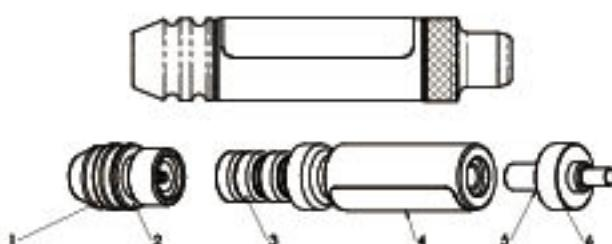

Fig.3. Exploded drawing 分解圖
## Name of each parts (Fig. 3)
- After you confirmed as above, you can assemble the all parts according to Fig.3.